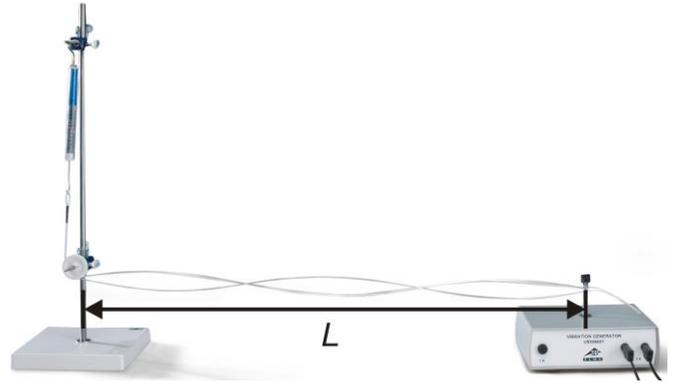

Fig. 4b: Illustration of the (effective) length L of the stretched rope
- Set up the distance from the stand and pulley to the vibration generator in such a way that the (effective) length of the rope L (Fig. 4b) is about 90 cm. Stretch the rope taut with the help of the dynamometer ($F \approx 0.6$ N) but only secure it gently for now with the help of the knurled screw on the vibrating stem.